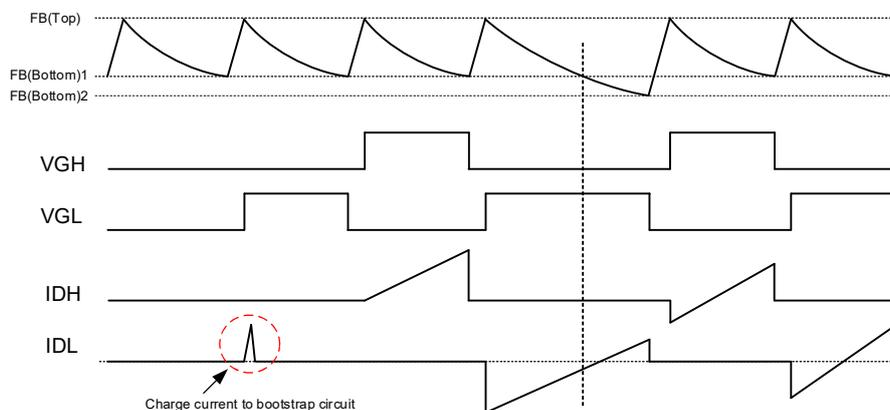

Fig 29. Tss(3) Operation Sequence
As shown in Fig 29, Tss(3) sequence extends the low-side VGL output for the second time by 1.7 times, after the power supply operation starts. This allows the gate output to be turned off after the current flows in the positive direction of the MOSFET.